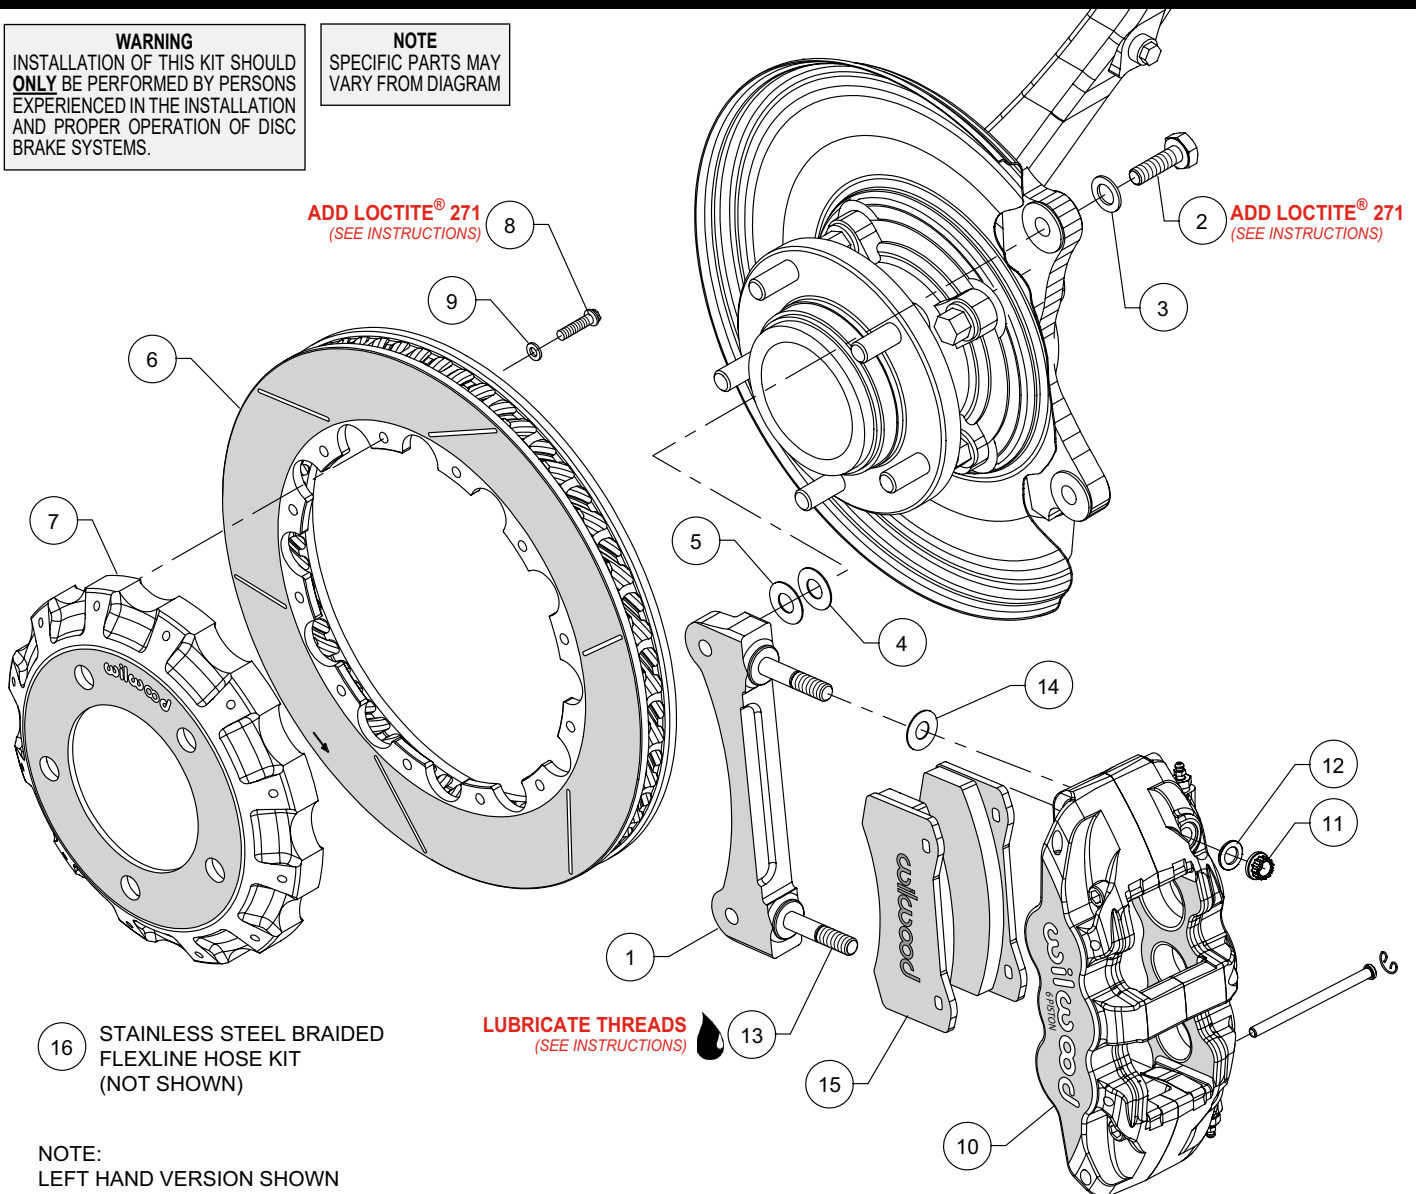
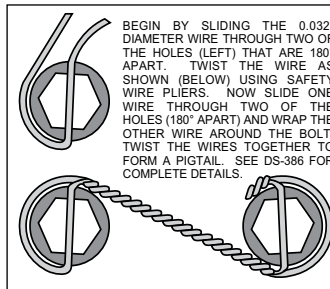

Figure 1. Typical Installation Configuration
Figure 3. Safety Wire Diagram
Assembly Instructions (numbers in parenthesis refer to the parts list and Figure 1 on the preceding pages):
- The caliper mount bracket (1) should initially be installed with clean, dry threads on the mounting bolts. Orient the bracket, as shown in Figure 1 and Photo 1, and install using bolts (2) and washers (3). Initially place one .033" thick shim (4) on each bolt between the bracket and upright, Figure 1. Temporarily tighten the mounting bolts. **NOTE: The bracket must fit squarely against the mount bosses on the upright.** Inspect for interference from casting irregularities, machining ridges, burrs, etc. Later, after the caliper alignment has been checked, the mount bolts will be secured using red *Loctite*® 271.
- Orient the rotor (6) and the hat (7) as shown in Figure 1 and Photo 2. Attach rotor to hat using bolts (8) and washers (9). Apply red *Loctite*® 271 to the bolt threads and torque to 155 in-lb using a criss-cross pattern. For an added measure of security, the bolts may be safety wired using standard 0.032 inch diameter stainless steel safety wire as shown in Figure 3. Refer to Wilwood's data sheet DS-386 (available at www.wilwood.com/Pdf/DataSheets/ds386.pdf) for complete safety wire installation instructions.
- **NOTE: This kit contains distinct right and left hand calipers that must be mounted in a specific direction, as described below.** Lubricate the caliper mounting studs (13) with lightweight oil. Initially place one .030" thick shim (14) on each stud between the caliper and the bracket, as shown in Figure 1 and Photo 4. Mount the caliper (10) onto the bracket (1) using lock nuts (11) and washers (12), Figure 1. Temporarily tighten the lock nuts. Ensure that the caliper is mounted so the largest pistons are at the rotor exit end of the caliper, in relation to the direction of the rotor. View the rotor through the top opening of the caliper. The rotor should be centered in the caliper, Photo 5. If not, adjust by adding or subtracting shims (4 and/or 5) between the bracket and the upright. Always use the same amount of shims on each of the two mounting bolts. Once the caliper alignment is correct, remove the bracket mounting bolts (2) one at a time, apply red *Loctite*® 271 to the threads, and torque to 60 ft-lbs.
- Remove the caliper (10), then remove the two pad retaining pins from the caliper by carefully popping out the pin retaining clips and sliding out the pins. Insert the brake pads (15) into the caliper from the bottom, Figure 1 and Photo 6. With the friction material facing the rotor, secure the brake pads in place with the pad retaining pins and clips, Photo 7. Reinstall the caliper onto the caliper mounting bracket and temporarily tighten the lock nuts. Check that the top of